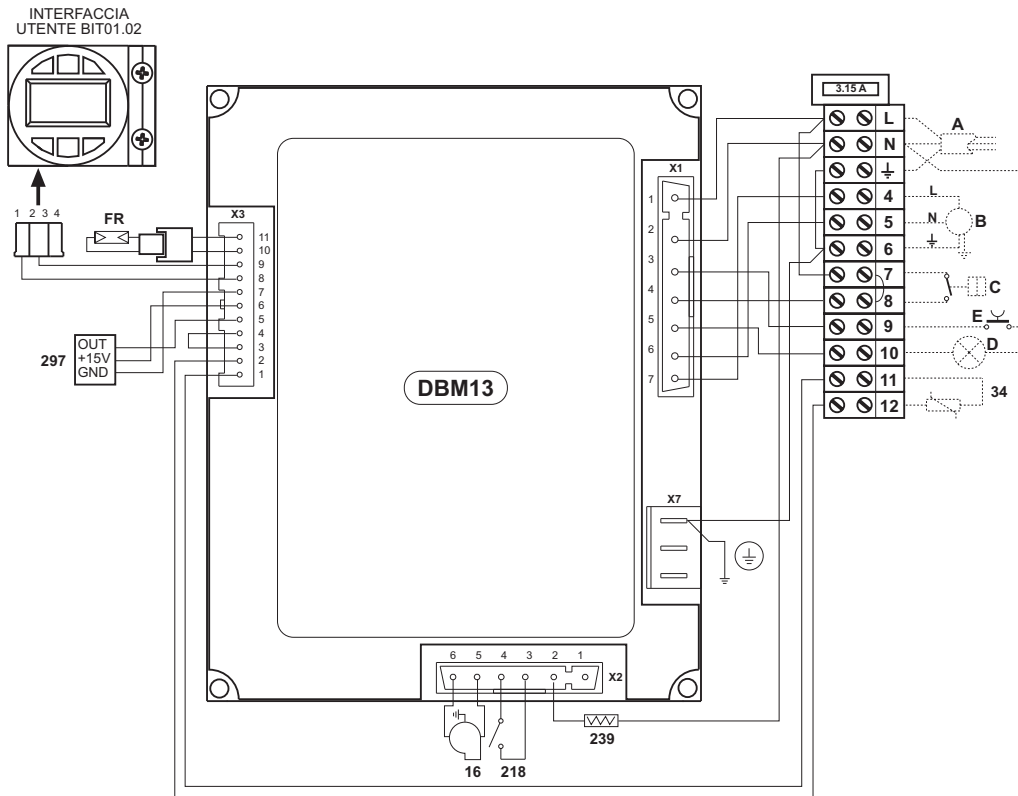
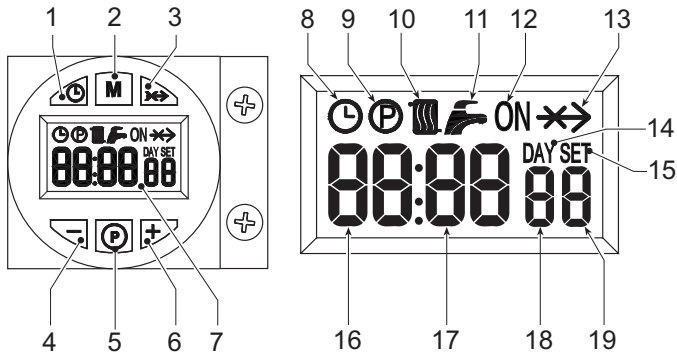

fig. 17 - Schema elettrico con morsetteria 12 poli
fig. 1 - Control panel
The lighting request (generated on closing of the contact on terminals 7-8 (see fig. 17), in default setting conditions) is indicated by activation of the radiator symbol (detail 10 - fig. 1).
1. Press the day/time setting button (detail 1 - fig. 1).
2. The CLOCK and DAY icons flash on the display (detail 7 - fig. 1): set the current day of the week with the + and - buttons (details 4 and 6 - fig. 1), considering that 1=Monday, 7=Sunday. Confirm the day by pressing the day/time setting button (detail 1 - fig. 1).
3. The two digits of the CURRENT HOUR and the CLOCK icon flash on the display (detail 7 - fig. 1): set the exact hour with the + and - buttons (details 4 and 6 - fig. 1), from 00 to 23. Confirm the hour by pressing the day/time setting button (detail 1 - fig. 1).
4. The two digits of the CURRENT MINUTES and the CLOCK icon flash on the display (detail 7 - fig. 1): set the exact minutes with the + and - buttons (details 4 and 6 - fig. 1), from 00 to 59. Confirm the minutes by pressing the day/time setting button (detail 1 - fig. 1). Automatic Heating, Manual On, Manual Off mode
Press the operation mode selection button (detail 2 - fig. 1) to set the:
1. In Automatic mode, the display (detail 7 - fig. 1) shows the CLOCK icon. The burner activation and deactivation request depends on the set weekly programme. In the request time band, the display (detail 7 - fig. 1) also shows the ON icon.
2. In Manual On mode, the display (detail 7 - fig. 1) only shows the ON icon. The burner is always in request status.
3. In Manual Off mode, the display (detail 7 - fig. 1) does not show the ON icon or the CLOCK icon. The burner is off.
The weekly programme is preset with 3 ON time bands and 3 OFF time bands; equal for every day of the week. In the request time band, the display (detail 7 - fig. 1) shows the ON icon.
1. Press the Programming button "P" (detail 5 - fig. 1)
2. Select the day to be programmed with the + and - buttons (details 4 and 6 - fig. 1):
3. Press the Programming button "P" (detail 5 - fig. 1):
- Use the + and - buttons (details 4 and 6 fig. 1) to modify the start of the 1st ON time band; e.g. 06:00 Press the Programming button "P" (detail 5 - fig. 1)
- Use the + and - buttons (details 4 and 6 fig. 1) to modify the start of the 1st OFF time band; e.g. 09:00 Press the Programming button "P" (detail 5 - fig. 1)
- Use the + and - buttons (details 4 and 6 fig. 1) to modify the start of the 2nd ON time band; e.g. 12:30 Press the Programming button "P" (detail 5 - fig. 1)
- Use the + and - buttons (details 4 and 6 fig. 1) to modify the start of the 2nd OFF time band; e.g. 14:00 Press the Programming button "P" (detail 5 - fig. 1)
- Use the + and - buttons (details 4 and 6 fig. 1) to modify the start of the 3rd ON time band; e.g. 16:00 Press the Programming button "P" (detail 5 - fig. 1)
- Use the + and - buttons (details 4 and 6 fig. 1) to modify the start of the 3rd OFF time band; e.g. 23:30 Press the Programming button "P" (detail 5 - fig. 1)
11. Press the Programming button "P" (detail 5 - fig. 1) for 3 seconds to exit the programming mode.
Press the programming button "M" (detail 2 - fig. 1) for 5 seconds to access the parameters menu. Parameter "u01", identified by the message SET 01, is displayed. Press the button "P" (detail 5 - fig. 1) to scroll the list of parameters.
To modify the value of a parameter, press the + and - buttons (details 4 and 6 - fig. 1): the change will be automatically saved. After modifying the parameter, it is necessary to wait 3 seconds: the datum item flashes and is saved.